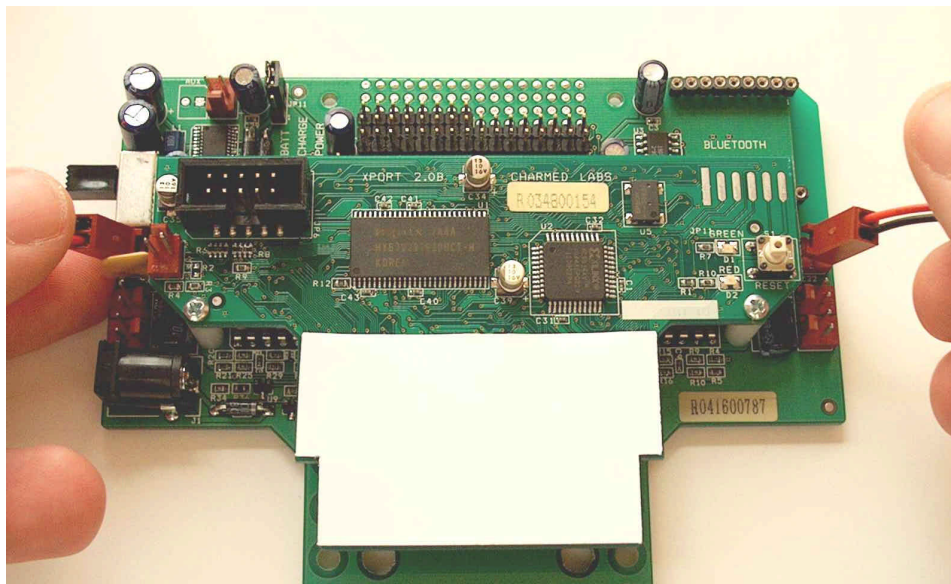

Figure 4: Connect battery holders to Robot Board
4. Connect the battery holders to the Robot Board connectors that are labeled "BATT0" and "BATT1" as shown in **Figure 4**.